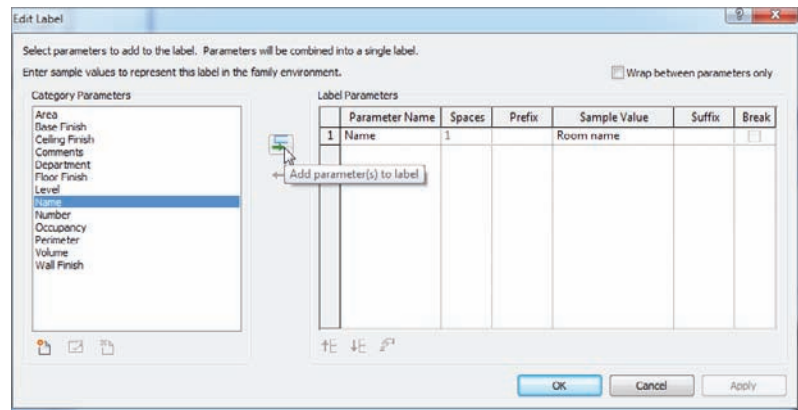

FIGURE 15.13 A list of available parameters you can add to the room tag
5. In the Edit Label dialog, the list to the left displays all the parameters that you can add to the room tag (see Figure 15.13). Don't change anything; click OK.